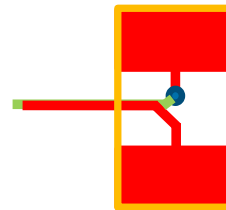

FIGURE 68. RECOMMENDED LAYOUT PATTERN FOR CURRENT SENSE TRACES REGULATOR
- For the current sensing traces close to the power sense resistor (R_{SENx}), the layout pattern shown in Figure 68 is recommended. Assuming the R_{SENx} is placed in the top layer (red), route one current sense connection from the middle of one R_{SENx} pad in the top layer under the resistor (red trace). For the other current sensing trace, from the middle of the other pad on R_{SENx} in top layer, after a short distance, via down to the second layer and route this trace right under the top layer current sense trace.